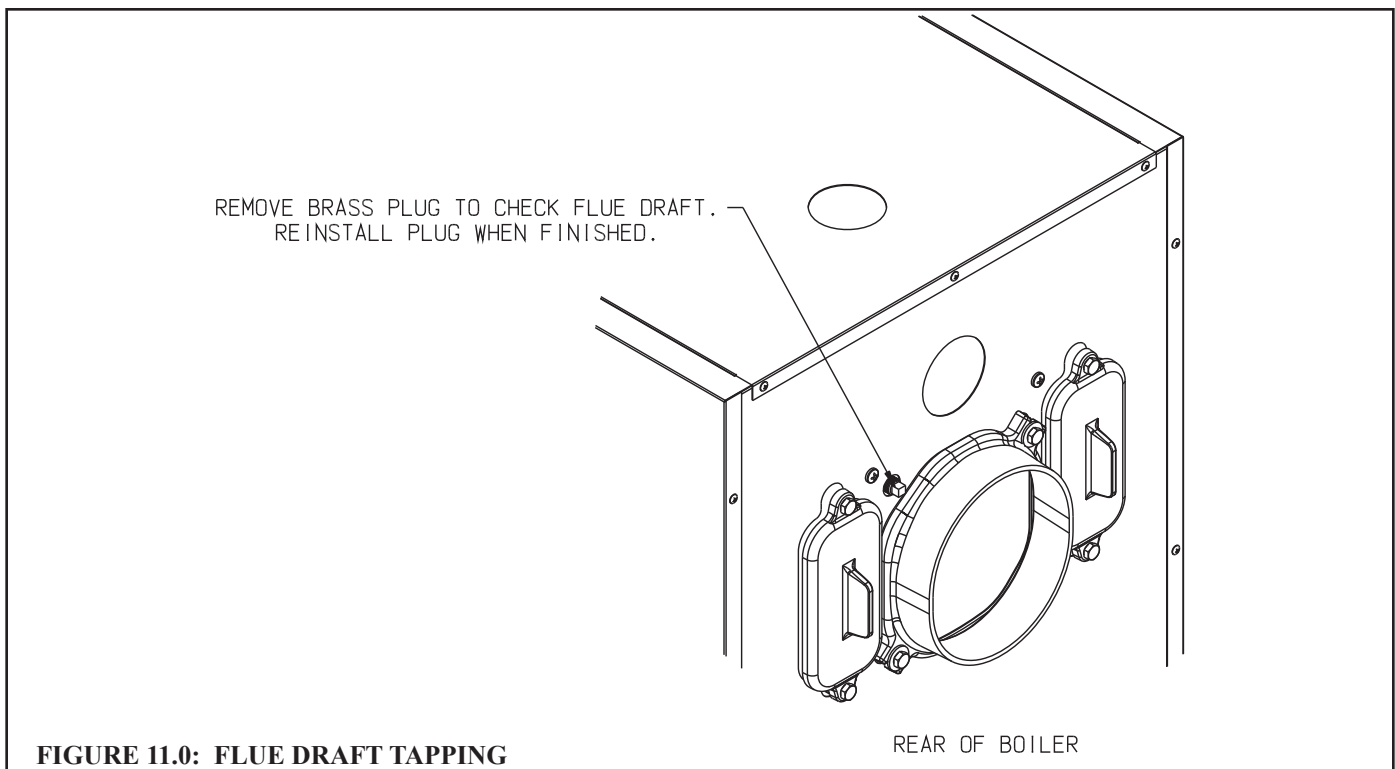

FIGURE 11.0: FLUE DRAFT TAPPING
- 18) After chimney has warmed-up for at least 5 minutes, adjust barometric draft regulator to obtain a draft at the 1/4" tapping shown in Figure 11.0 that is within the range shown in Table 11.1. DRAFT AT THIS LOCATION MUST NEVER BE POSITIVE.